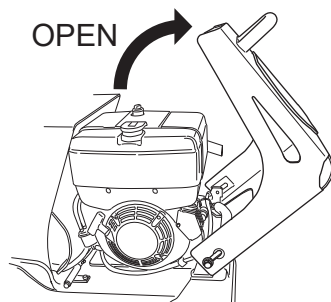

Fig.25
- 3 Open the front cover slowly.(Fig.25)